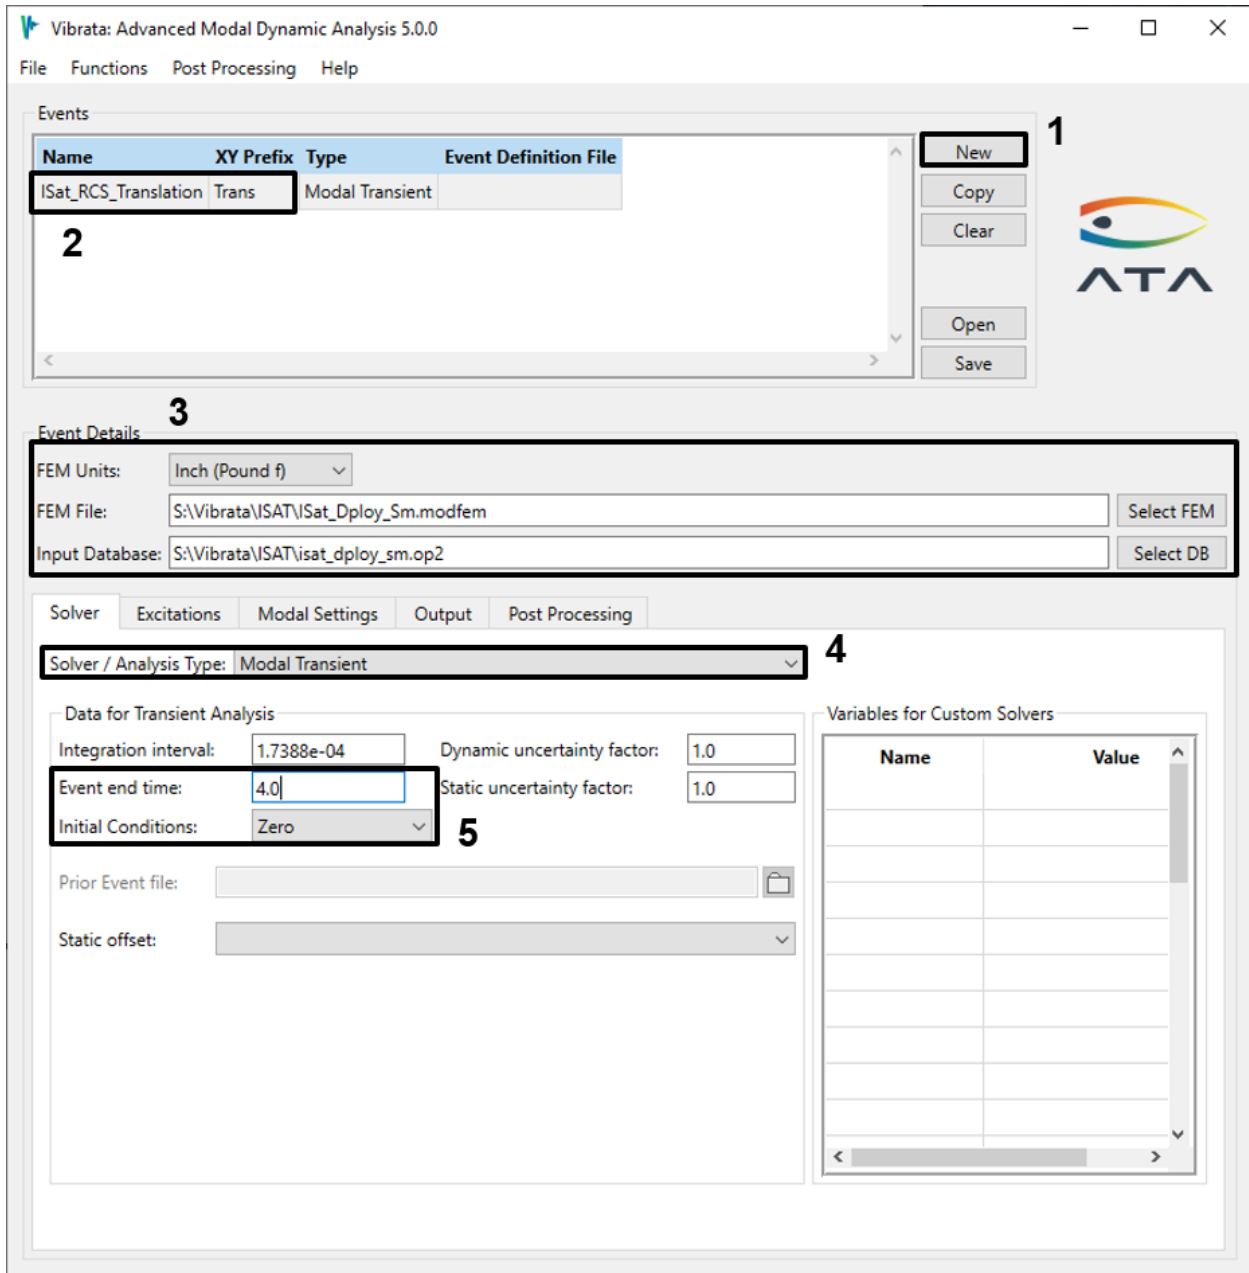

Figure 4-91. Transient event setup for deployed Isat model.
2. In the Event Manager, set up a new transient event and select the Femap file you just created and the OP2 “isat\_deploy\_sm.op2”. Set the event end time to 4.0 seconds and its initial conditions to Zero. Assign it an informative name. See Figure 4-91.